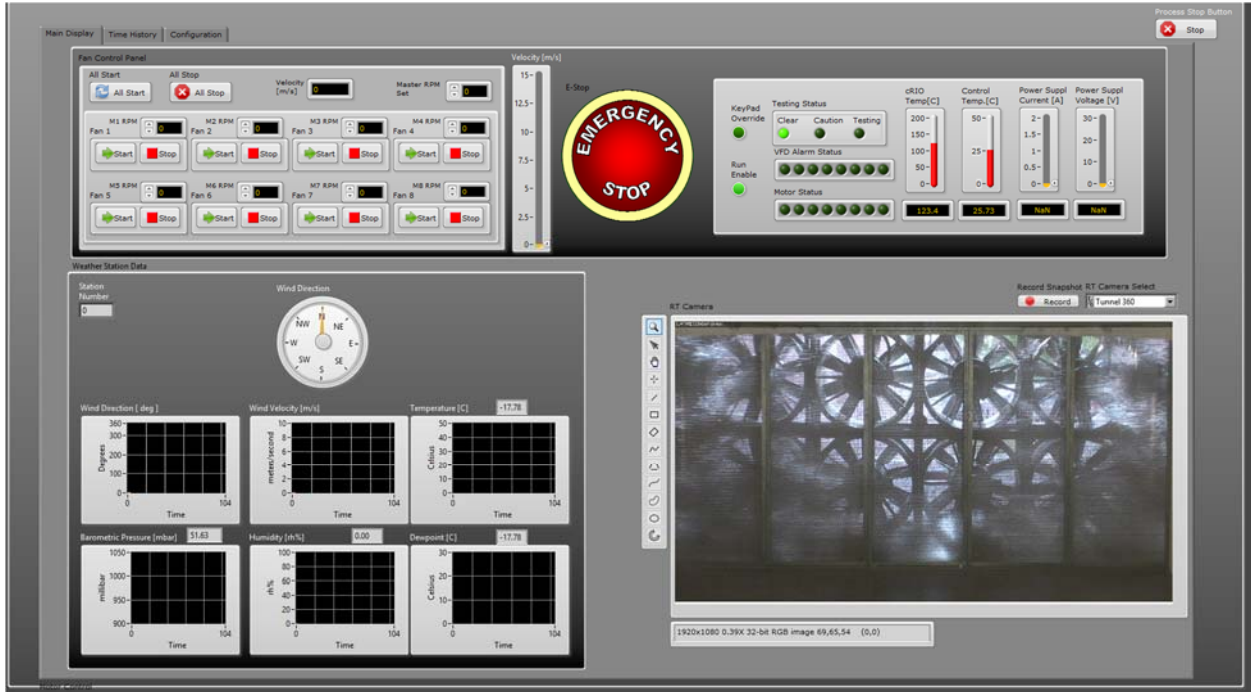

Figure 11. Motor Control Panel
- 2.4.1 Refer to figure 11 for the following steps. Before operating the fans determine if they will be operated in Velocity mode or RPM mode.
- 3.1.1 Refer to figure 11 and select the **ALL STOP** button on the motor control panel and wait for the fans to stop.